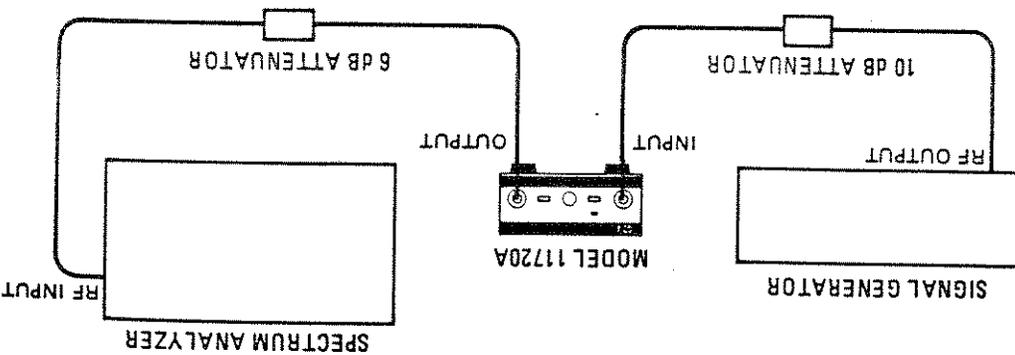

Figure 5. On/Off Ratio Test Setup
2. Connect equipment as shown in Figure 5.